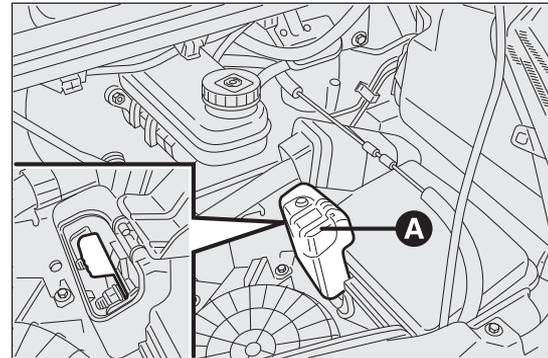

fig. 166
- raise the flap A fig. 166 to gain access to the positive battery terminal.